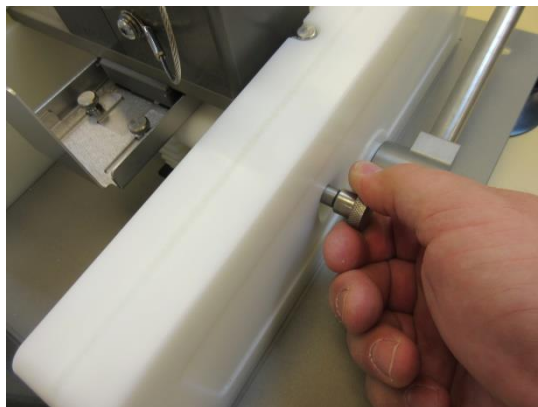

Figure 9b
- Move the Stop Gate Lever to the up position to reset the Stop Gate. (Figures 9b & 9c)